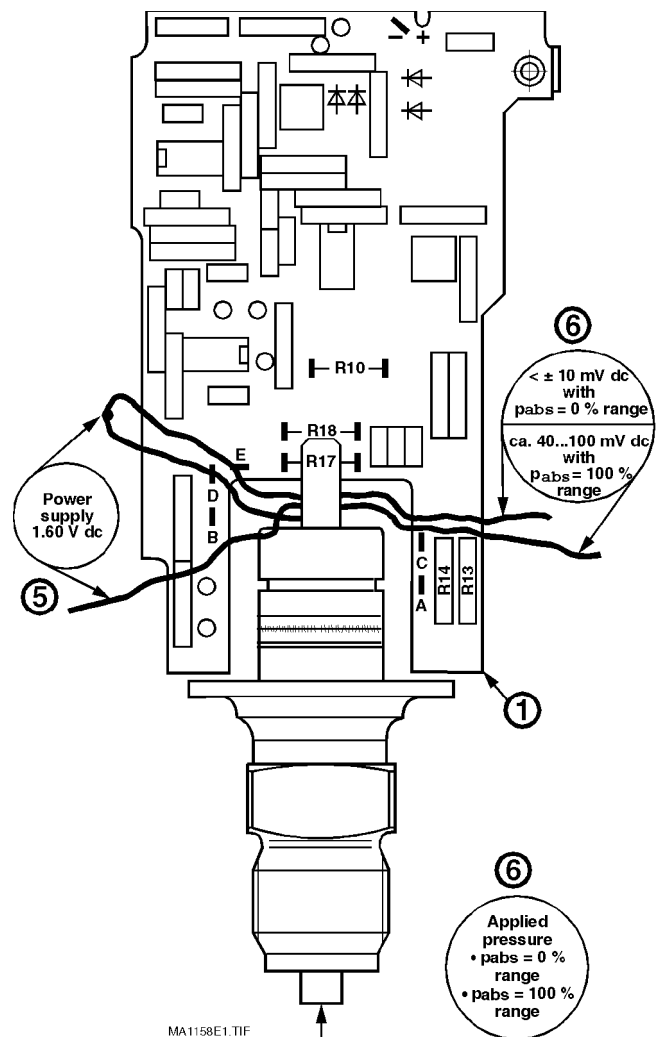

Fig. 21. Measuring mechanism/electronic unit of the AMD 210
Flow diagram for fault finding on the AMD 210 up to F.-No. 155xx x x49999 (see Fig. 21)
2. Unsolder the wiring between the measuring mechanism and electronic on the electronic pcb (solder terminals A(r), B(bk), C(bu), E(wt), D(ye) see Fig. 21).